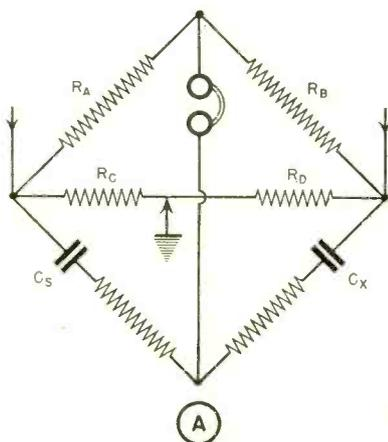

Fig. 6. Bridge with Wagner ground; and method of balancing.
Large conductors are necessary with relatively close spacing to obtain the required low impedance for the transformer. However, any other construction could be employed providing the proper impedance is obtained. A concentric transformer could be used but not as good a balance would result. A cage transformer, made up of several pairs of wires in parallel, as in Fig. 6, could be employed with good results. Full details of this system are described by Carl J. Madsen, April 1937 RADIO; and Leigh Norton, November 1938 RADIO.
ground circuit  $R_C$  and  $R_D$ , we have Fig. 6-A.
The presence of  $R_C$  and  $R_D$  does not affect the preliminary balance made by adjusting  $R_A$  and  $R_B$ . Then by switching to the circuit of Fig. 6-B we balance the auxiliary circuit by means of the potentiometer arm on  $R_C$  and  $R_D$ , leaving the arm between  $R_A$  and  $R_B$  untouched. The circuit is then switched back to Fig. 6-A and rebalanced, then to Fig. 6-B and rebalanced, and so on. The number of trials necessary is usually very few. In this manner the effect of coupling from the signal input generator, as well as stray couplings to ground, may be largely balanced out. This switching arrangement from Fig. 6-A to Fig. 6-B is obvious. Thus, there are two means of overcoming the effect of stray coupling, (1) the simple bridge with the adjustable ratio
arm grounded, Fig. 2, and (2) the bridge with the Wagner ground circuit Fig. 6-A.